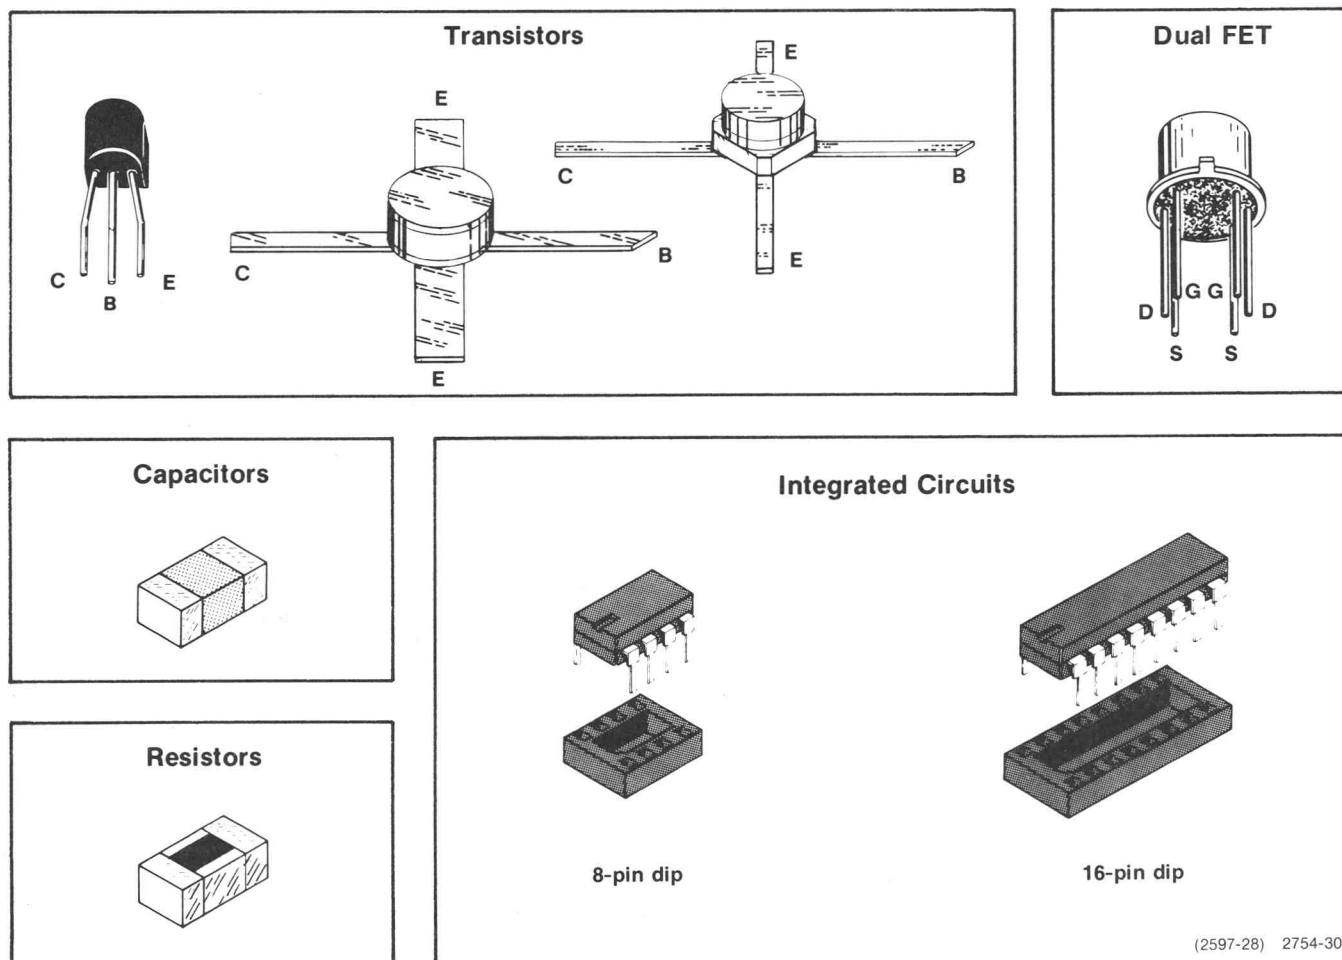

Fig. 5-4. Active component basing diagram.
Transistors. Lead identification for the transistors and ICs is shown in Fig. 5-4.
- Be sure the component is inserted properly in its socket (see Fig. 5-4 or the manufacturer's data sheet).